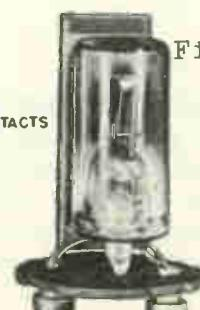

Fig. 10 The Connection for a Voltage Dropping Register Used With Direct-current Supply.
#### N. Direct-Current Operation, Fig. 10.
1. When fluorescent lamps are operated on a direct current supply line, the ballast is used in series with a resistor as shown in Fig. 10.